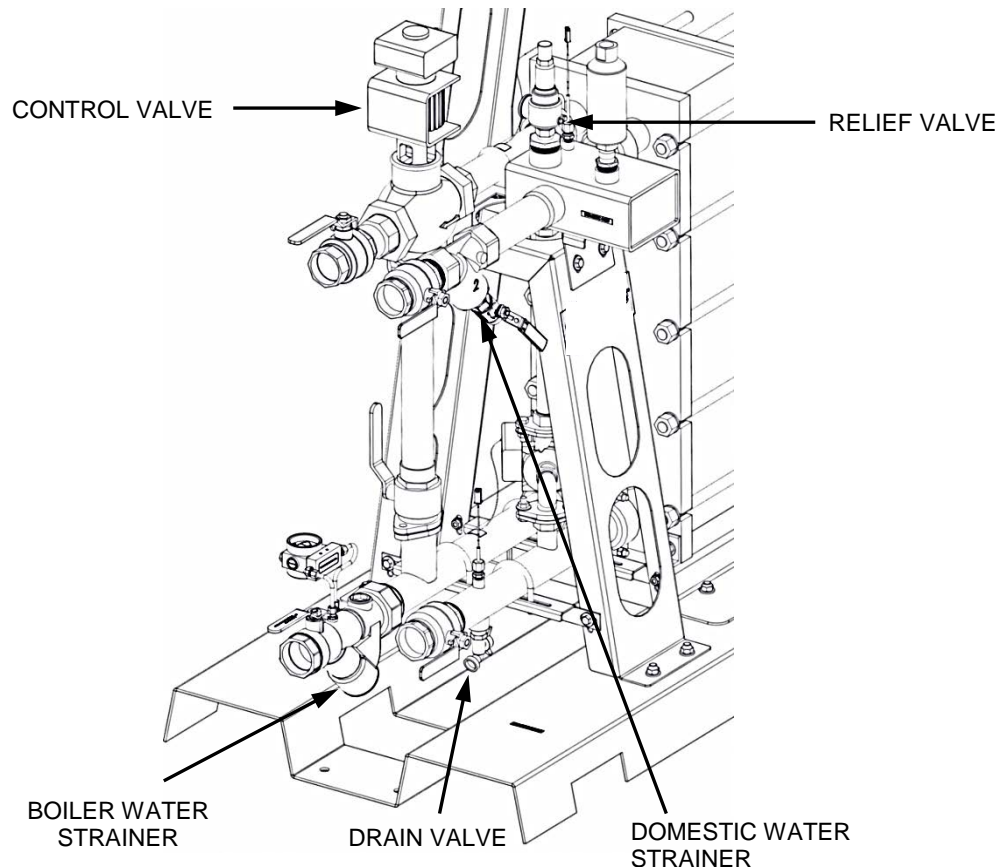

Figure 8-6. Draining the SmartPlate Double-Wall Water Heater
3. Connect a hose to the Strainer on the Boiler Water side of the piping assembly (Figure 8-6).